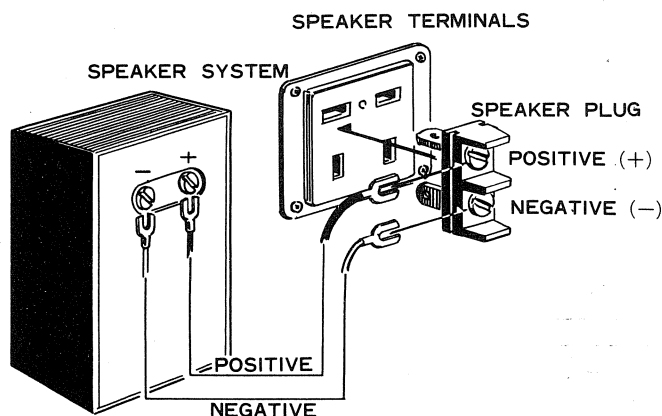

Fig. 6
- To connect the speaker system to the SM-700 unit, use the connector plug furnished in the accessory group. For speaker hookup, see the wiring diagram shown in Fig. 6. Be sure that the speaker leads are connected to the speaker plug terminals as illustrated in the figure, with special attention to the + and - connections.